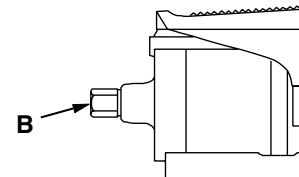

Figure 5
1. See Figure 5. Connect a 9 CFM [$15 \text{ m}^3/\text{h}$] (minimum) air supply source to the $\frac{1}{4}$ "[0,5 cm] NPTF pump air inlet swivel connector (B). Use only $\frac{1}{4}$ " [0,5 cm] hose or quick disconnect fittings. Larger, heavier fittings are not recommended. Use a high-grade pipe thread sealer to seal the connection.